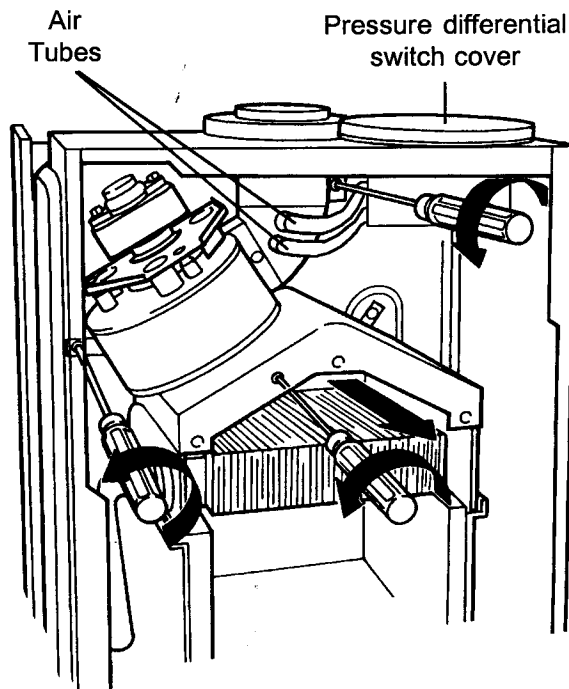

Fig. 29
- 8.9.4 Unscrew maintenance clip securing screws and remove clip (fig. 29)
- 8.9.6 Remove 3 flue hood retaining screws. fig. 29
Part No 8195 Refer to fig. 29
- 8.10.3 Remove 5 screws on pressure differential switch cover (fig. 29) and remove cover.